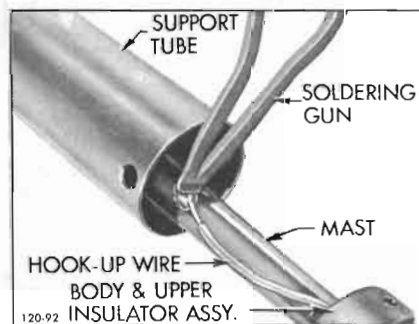

Figure 120-92—Soldering Hook-Up Wire to Mast
3. Unsolder hook-up wire from 0.40 inch diameter section of the mast (see Figure 120-92).
7. Solder the free-end of the hook-up wire to the 0.40 inch diameter section of the mast section, using rosin flux solder (see Figure 120-92).